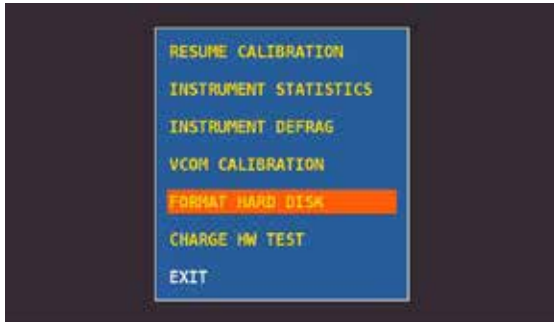

Figure 1: Menu selection
2. Press and HOLD for at least 10 seconds SIMULTANEOUSLY the 3 mechanical buttons, SPECT, PLAN and VOLUME and wait until on the instrument appears the menu shown in Figure 1;
3. Select "**FORMAT HARD DISK**" (figure 1), press the encoder (ENTER) and wait for the execution of the process;